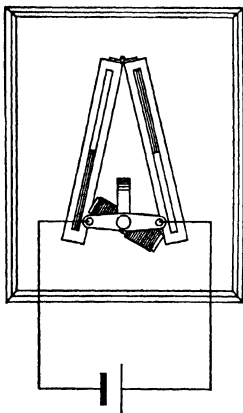
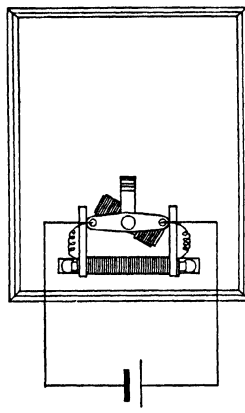

FIG 79
FIG 80
**I. Adjustment of the commutator.** Swing the permanent field magnets away from the armature of the motor shown in Fig 79. Connect one dry cell to the motor. With a small compass test the polarity of each end of the armature core for a complete revolution. Note the position of the armature when the polarity of its iron core changes.
**IV. Shunt-wound motor.** (a) Swing the permanent field magnets out of the way and connect the electromagnet in parallel with the armature of the motor as in Fig 80. Does all of the current flow from the battery now pass through the armature as it did when used as in Fig 79.